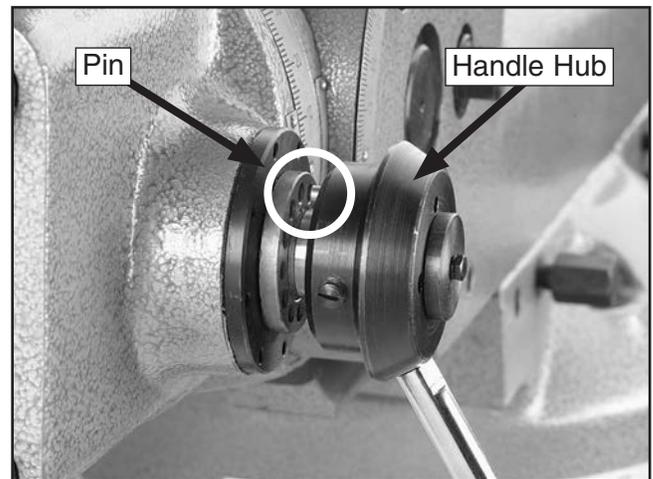

Figure 35. Coarse downfeed handle engaged.
4. Insert the pin of the handle hub into a hole on the base, as shown in **Figure 35**.